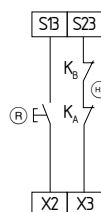
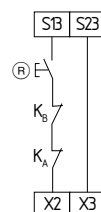

Fig. 3
Fig. 4
Dual-channel control, shown for a guard door monitor; with two contacts A and B, where at least one is a positive break contact; with external reset button (R) (see Fig. 3)
- (HD) = Feedback circuit
External reset button with edge detection (see Fig. 3 and Fig. 4)